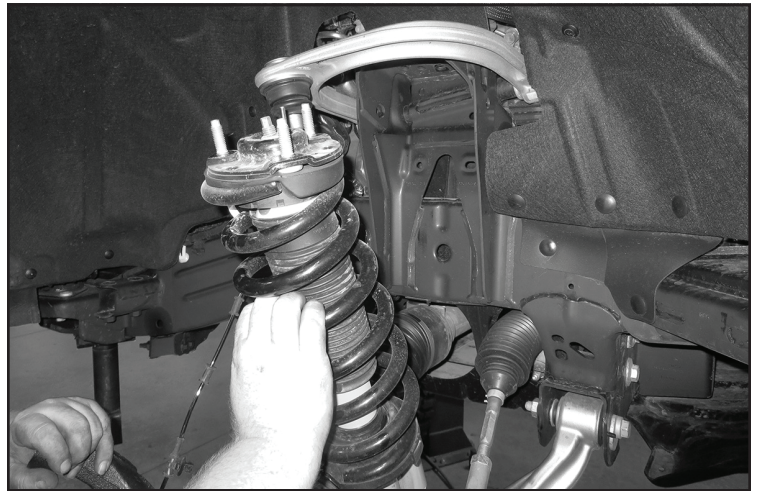

FIGURE 9 - STEP 7
9. Remove the three nuts attaching the coilover to the upper mount then remove the factory coilover by pushing down on the lower control arm. **SEE FIGURE 9**